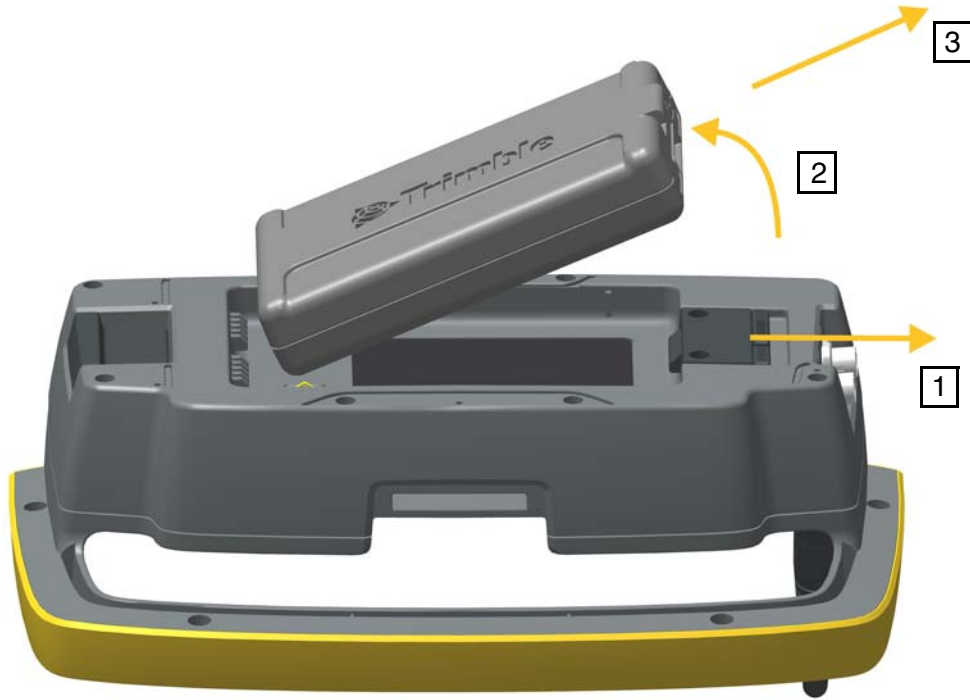

Figure 6.20 Detaching a battery from the Trimble Robotic Holder
1. Pull the battery lock mechanism away from the battery (1).
2. Lift up this side of the battery (2).
3. Remove the battery from the holder (3). See Figure 6.20.